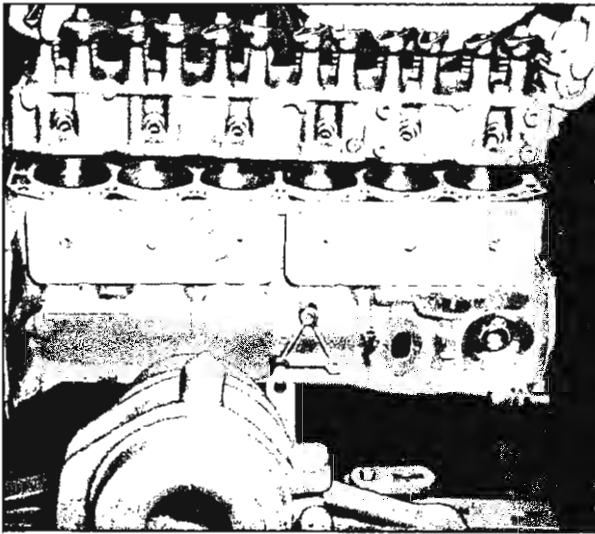

Fig. 26—Installing Cylinder Head
2. Carefully guide cylinder head into place over dowel pins and gasket (fig. 26).